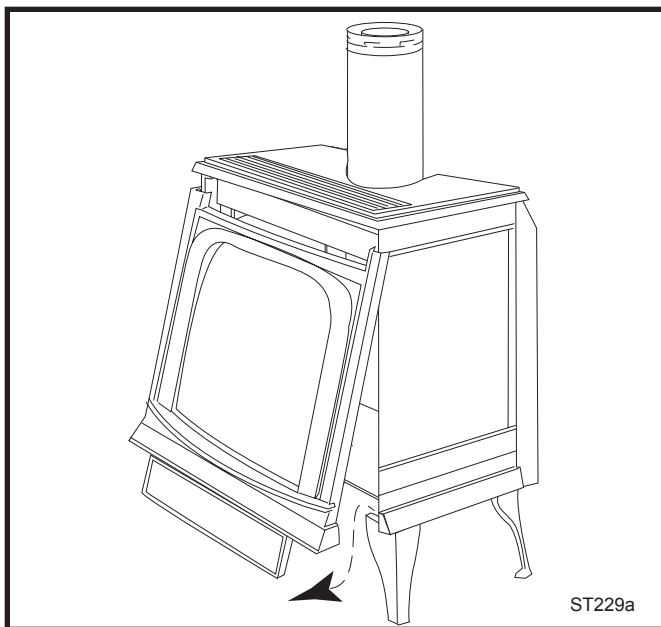

Fig. 37 Remove stove front.
1. Remove stove front. Lift stove front up and then swing bottom out and away to disengage from the stove body. (Fig. 37)